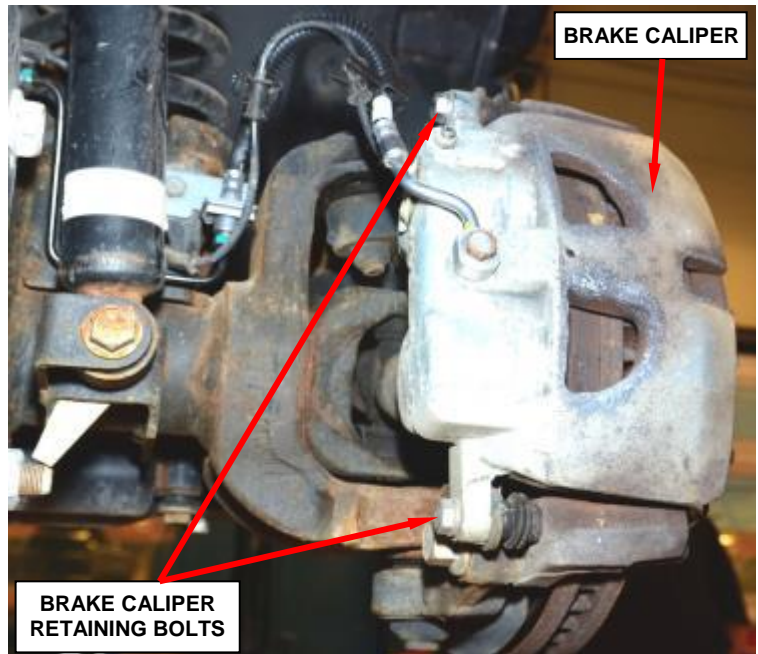

Figure 2 – Brake Caliper Retaining Bolts
- Remove the front brake caliper retaining bolts and support the calipers using bungee cords or equivalent (Figure 2).